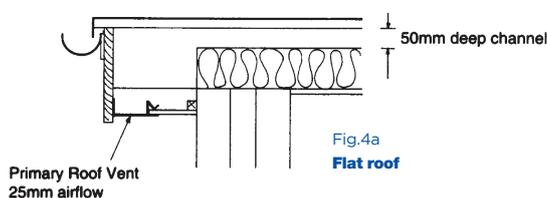

Fig.4a
- With a flat roof a free airflow is required which is equivalent to a continuous 25mm opening (25,000² mm per metre). See figs. 4a,4b and 4c